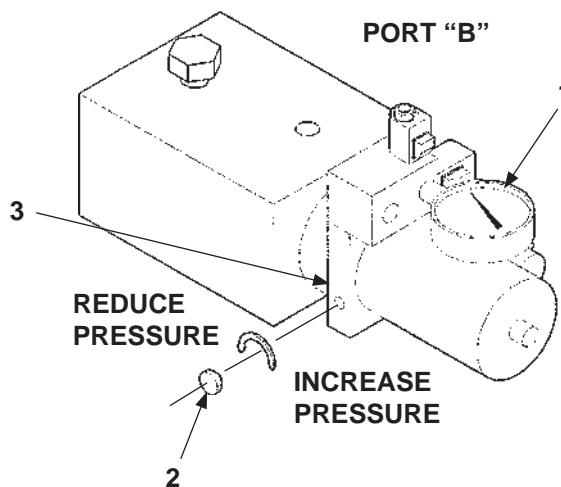

FIG. 44-1
4. Activate the **RAISE/LOWER** switch several times to verify that the pressure shown on the gauge remains at the proper setting (**FIG. 44-1**).